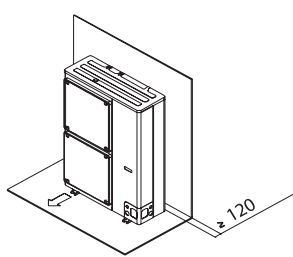

Figure 1
- Only one obstacle exists at the air intake side (see Figure 1)